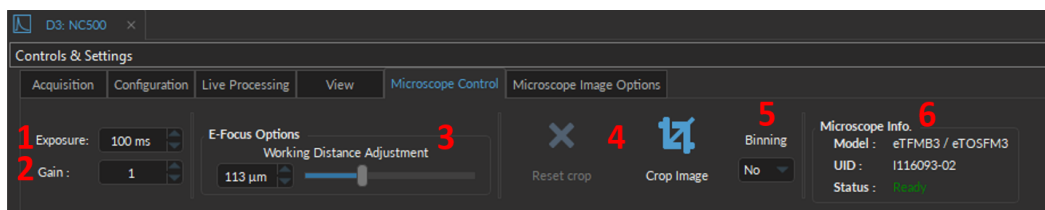

Figure 11.95: Microscope Control Tab
The **Microscope Control** (Fig. 11.95) specifies microscope settings that change the quantity/quality of images the microscope sensor collects. These settings directly affect data recording in .doric file, and include:
1. The **Exposure (ms)** textbox (Fig. 11.95, 1) specifies the length of time that the microscope sensor collects light from the sample. This value is inversely related to the **FPS** of the device, such that a 100 ms exposure corresponds to 10 FPS (accordingly, a 200 ms exposure corresponds to 5 FPS, and so on).
2. The **Gain** text-box (Fig. 11.95, 2) corresponds to the relative amplification measure applied to the sensor. Note that increasing the gain will simultaneously increase both the signal and noise. Four options of gain (1-4) are available.
3. The **E-Focus Options** (Fig. 11.95, 3) allows users to adjust the **Working Distance** of the microscope focus using a slide bar from 0 to 350 μm for Twist-on *efocus fluorescence microscope*.
4. The **Crop Image** button (Fig. 11.95, 4) allows to select a square portion of the image by dragging the mouse cursor on the selected image region. Releasing the cursor will automatically crop the displayed image. To reset the image to its original pixel size, Press the **Reset crop** button. Note: In order to crop an image, a frame must be loaded into the **Microscope View**, which can be done using either **Live** or **Record** buttons (Fig. 11.7, 1 & 2).
5. The **Binning** drop-down (Fig. 11.95, 5) averages the pixels values based on the binning value selected: either none, 2x2 or 4x4 pixel squares will be average together. This reduces the number of pixels for smaller save file sizes. Note that **Size** of the frame will be automatically adjusted based on the binning:
6. The **Microscope Info.** (Fig. 11.95, 6) displays the following device information: